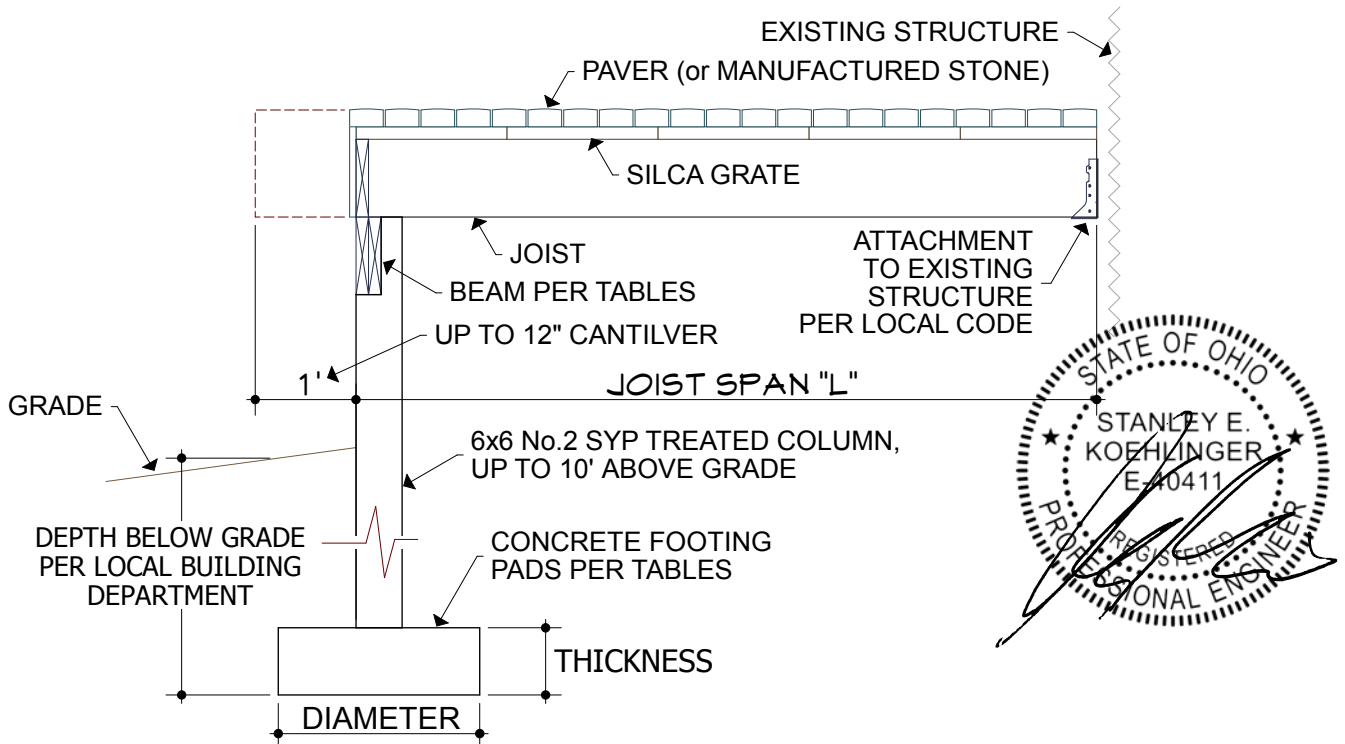

Figure 1
1. Use Table 1 directly below to determine the required joist size based on the chosen paver thickness and the span (or length "L") of your deck joists - see Figure 1 bottom this sheet.